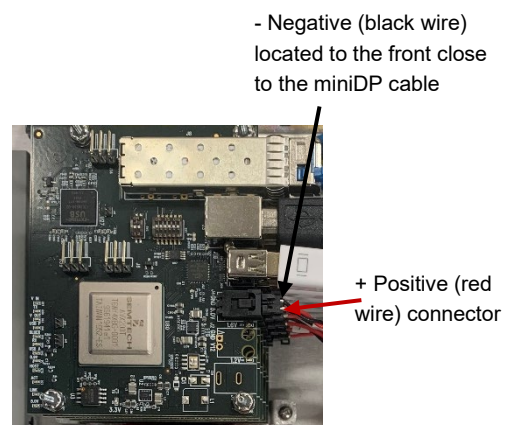

Figure 17- KVM PCB Power Cable
**Warning: The 5V power cable must be installed with the proper polarity (see Figure 17). Connecting the 5V power cable with reverse polarity will severely damage the KVM PCB.**